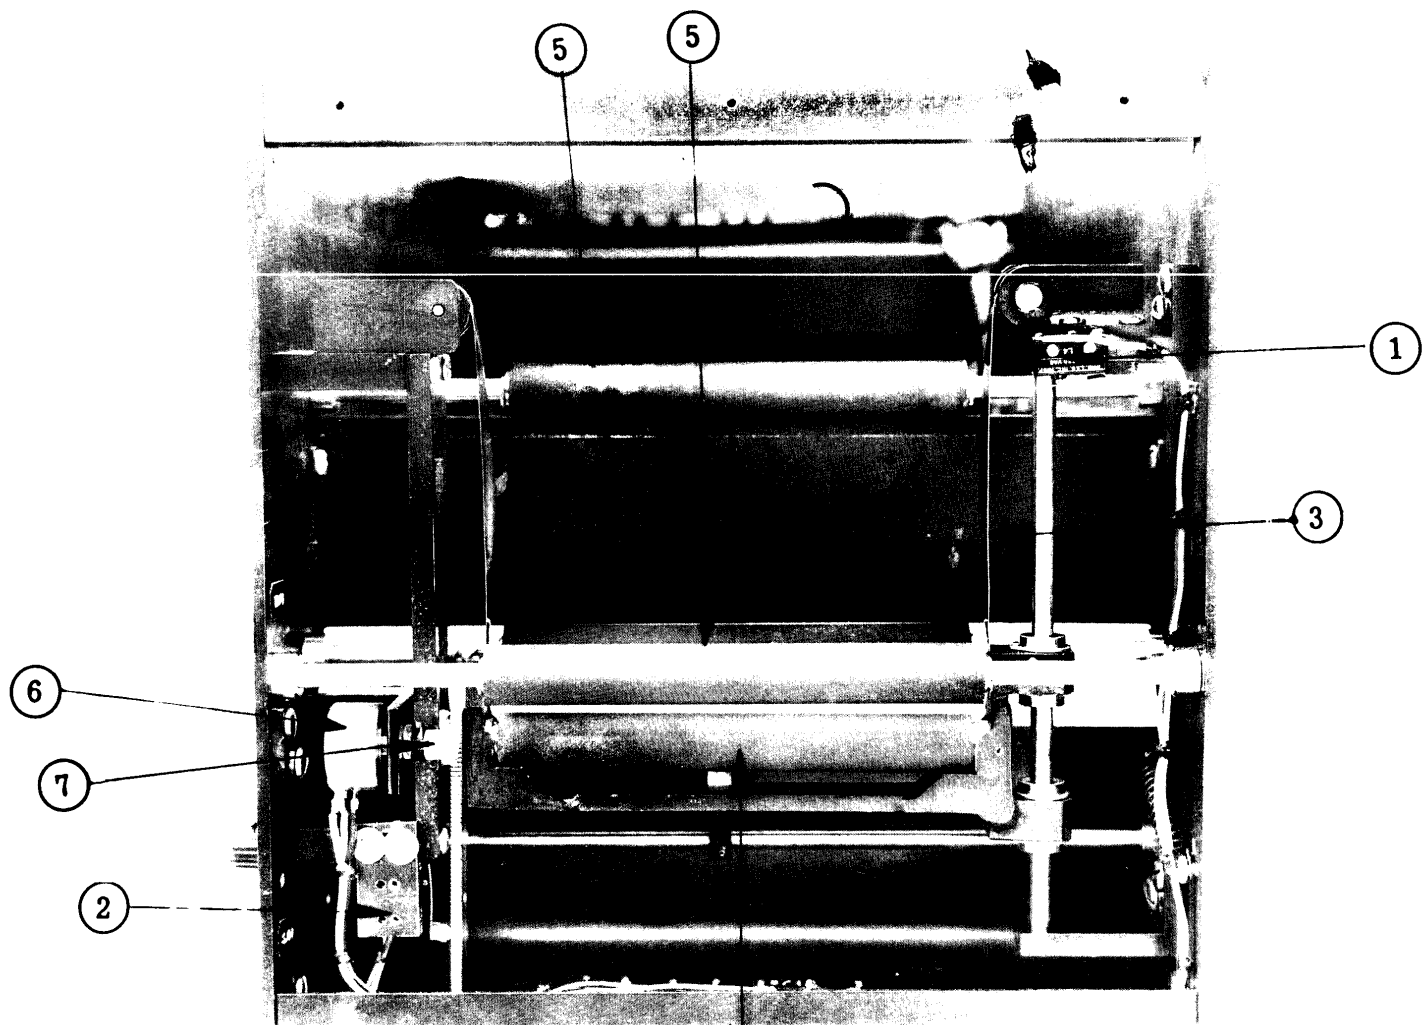

FIGURE 1-8 LOOP SENSOR MECHANISM
- e. Depress loop sensor roller (callout 4, Figure 1-8) to its extreme bottom position and latch in place using yellow coded knob located on right side of console.
- f. Manually feed the leading edge of the film between the two idler rollers (callout 5, Figure 1-8) and over the loop sensor roller.